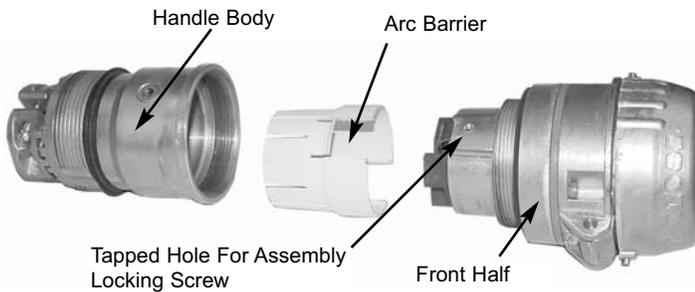

Figure 5
5. Slide handle body down the cord and over the terminals, making sure the raised bosses of the front half line up with the notches in the white arc barrier located inside the handle body. See Figure 5.